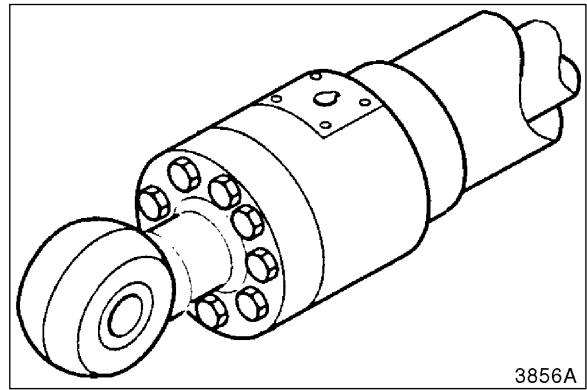

Figure 36
22. Install bolts in cylinder head and tighten them to torque specified in bolt torque chart. See Figure 36. Double check to make sure that hole in cylinder head is align with port in cylinder tube.